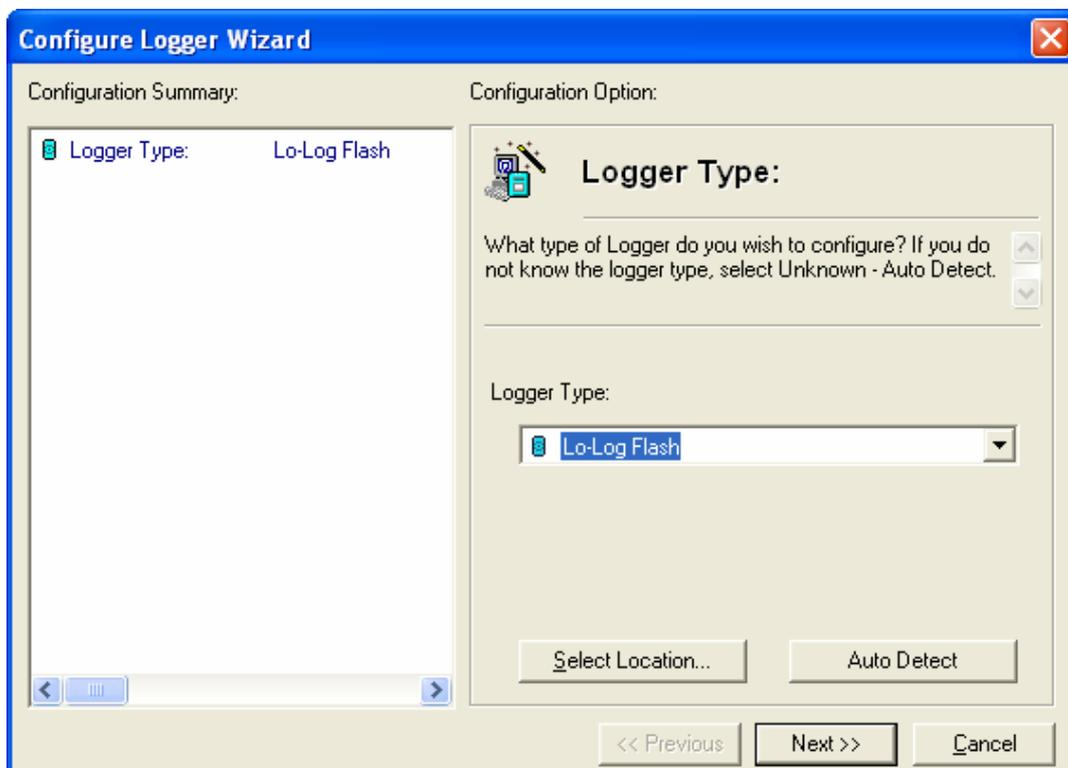

Figure 7 – Logger Type Selection Screen
- 2) All of the configuration information can be seen on the left side of the screen of the **Configuration Summary** box of the Configure Logger Wizard screen (See Figure 7).
Select *Lo Log Flash* from the **Logger Type** drop-down menu. If you are unsure of the type of logger you are using, click on the **Auto Detect** button (see Figure 7).